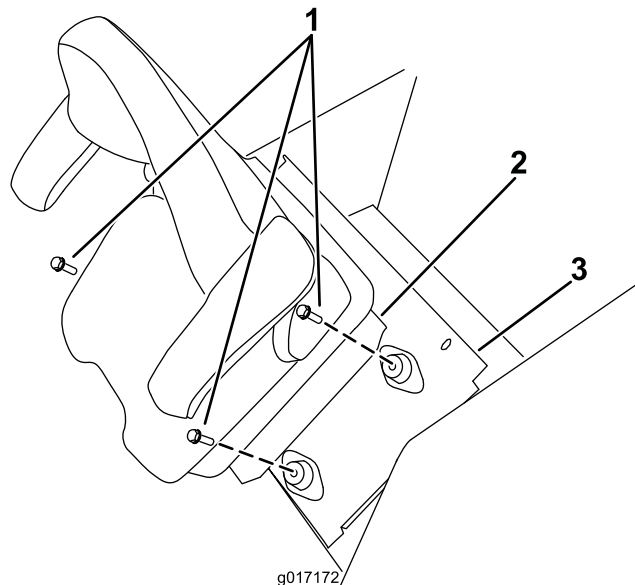

Figure 2
6. Remove the fasteners securing the seat base to the seat mounts and seat plate. Lift the seat and seat base off the machine (Figure 2).